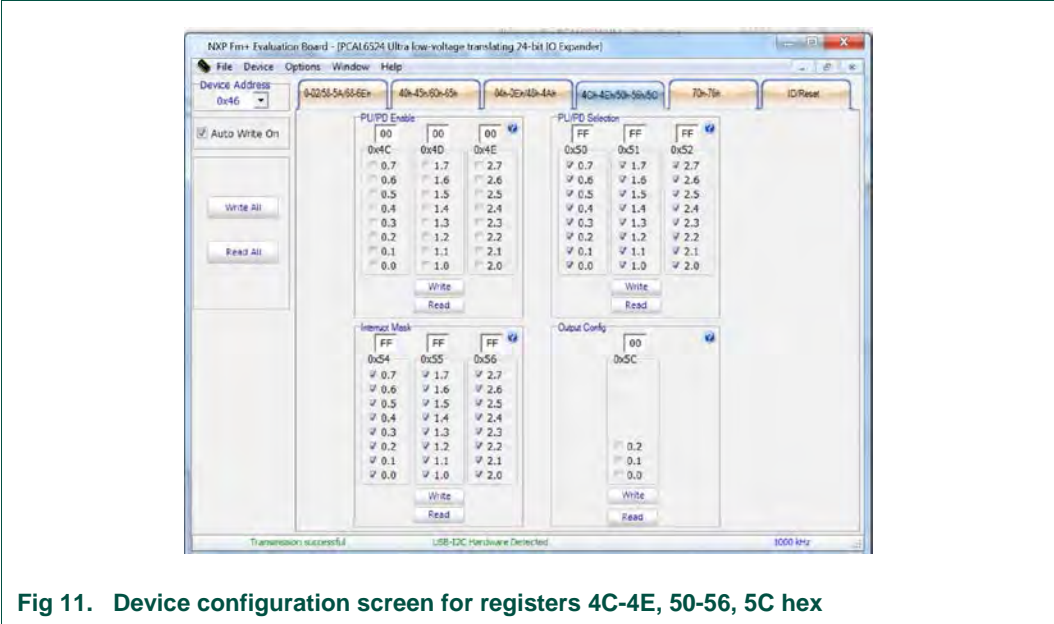

Fig 11. Device configuration screen for registers 4C-4E, 50-56, 5C hex
5. Fourth group registers read or write are shown in Fig 11.